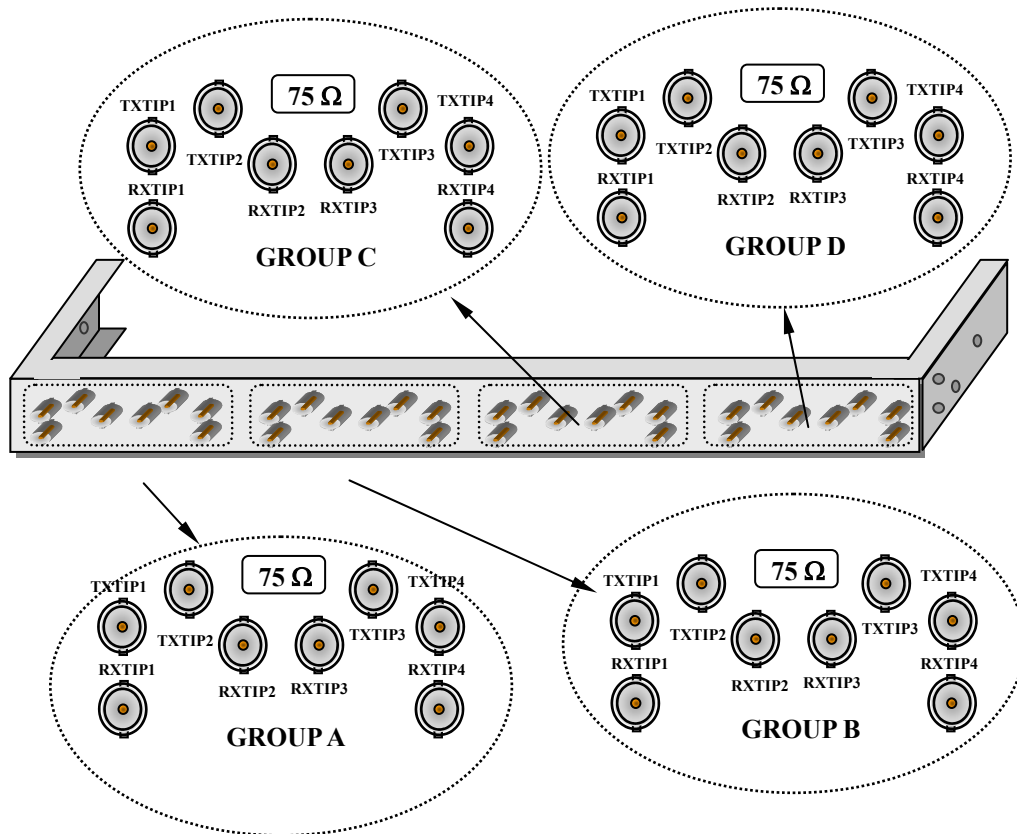
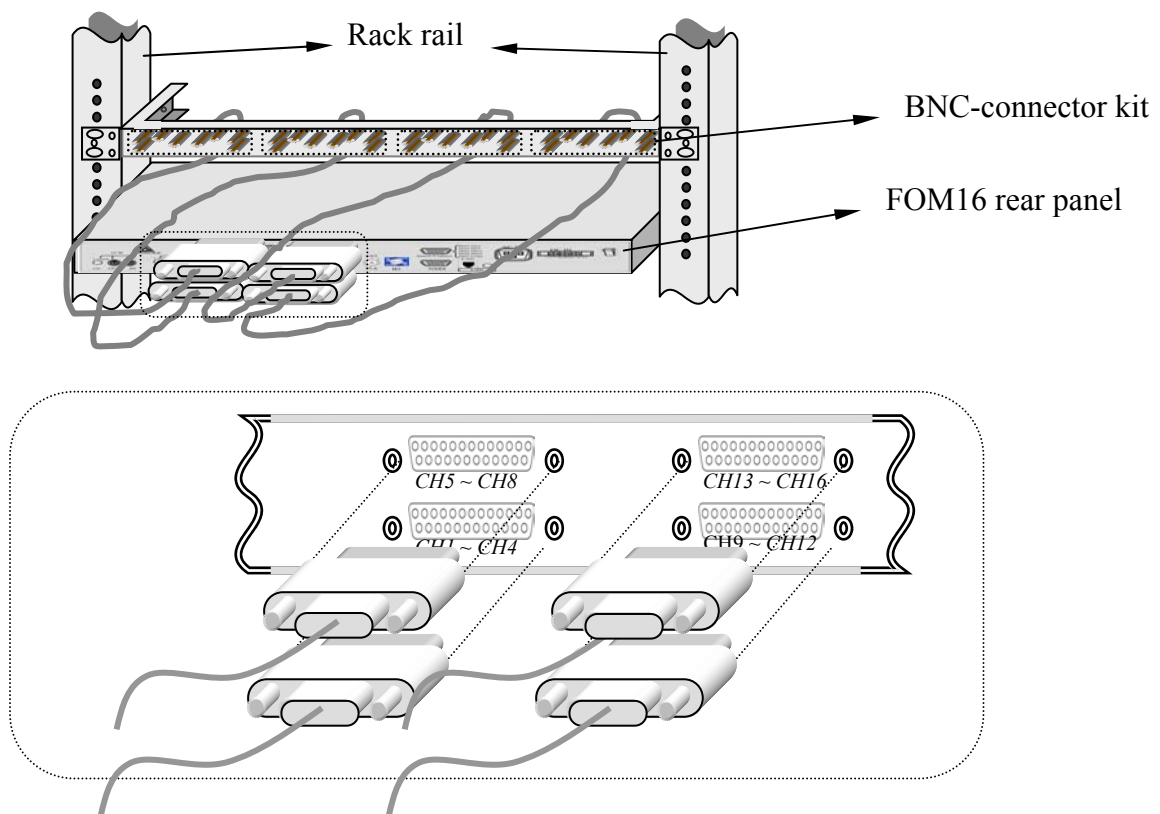

Fig.9 BNC-connector kit
Fig.10 DB-25 connectors and BNC-connector kit
- 3.5 For the unbalance interface, each E1 tributary has two BNC connectors designated TXTIP (transmit output) and RXTIP (receive input), as shown in Fig.9 and Fig.10.